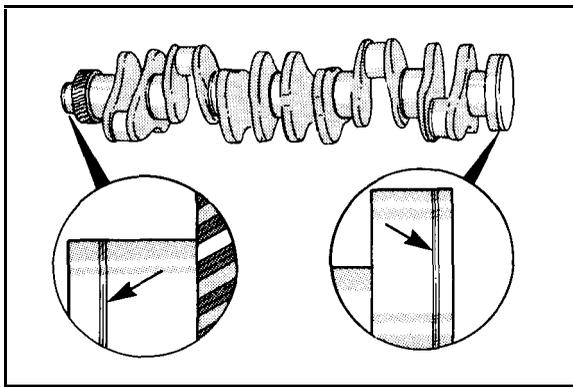

Figure 6-15
1. Clean crankshaft oil holes with a nylon brush (Figure 6-15).